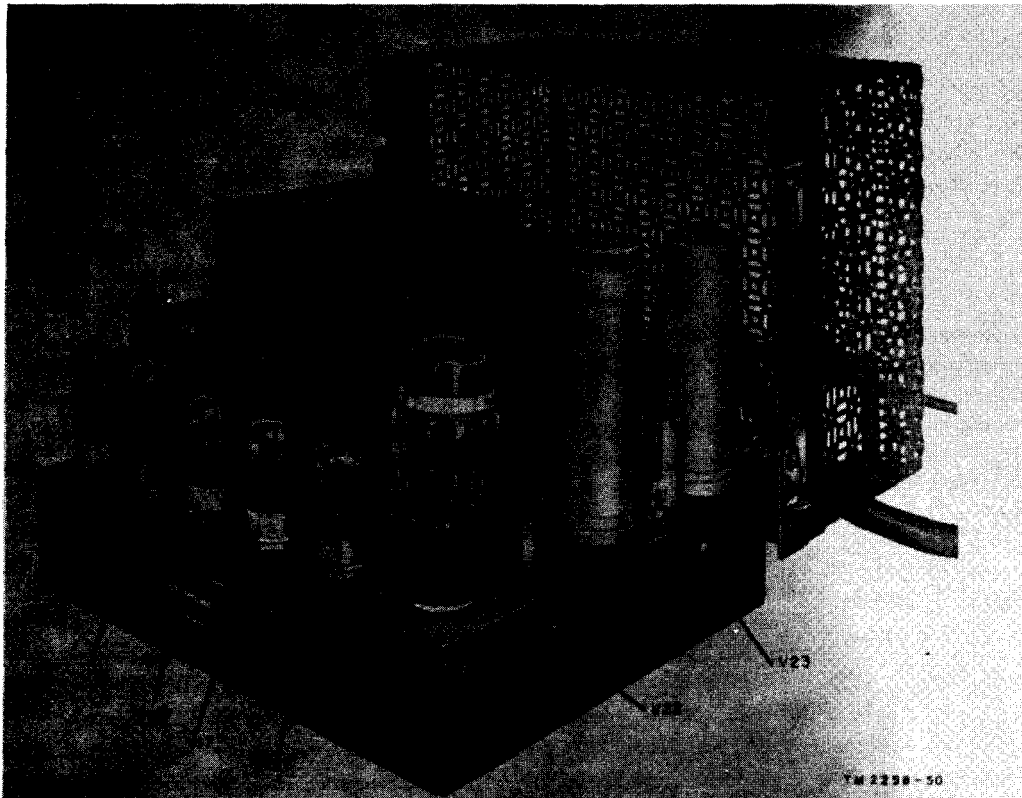

Figure 3. Rectifier power units PP-86/TXC-1, PP-86A/TXC-1, or PP-86B/TXC-1, cover removed.
of a front panel selector switch) and Rectifier Power Unit PP-86(*)/TXC-1 (fig. 3) which supplies operating power to the transceiver and dust removal blower and operates from an alternating-current (ac) source of 115 volts at 60 cycles per second (cps).
b. Rectifier Power Unit PP-86()/TXC-1.* The rectifier power unit (fig. 3) is constructed on a metal chassis 12 inches long by 10 inches wide by 2½ inches high (some chassis are 3 inches high). All components are mounted on top of the chassis. The chassis is shielded and protected by a metal ventilated top cover and by a bottom cover plate with four metal feet. Two cables emerge from an opening in the top cover; one is a power cable for connecting to the ac line, and the other is a power cable that is terminated in a Jones plug attached to the transceiver. The rectifier power unit is provided with a canvas cover for protection during shipping. Rectifier Power Unit PP-86E/TXC-1 has a receptacle (J10) with a ground stud for the dust removal blower power cord. The fuse holder which housed the spare fuse in all former models of the rectifier power unit now is used for the 3 amp 3AG dust removal blower fuse (XF4, fig. 156).